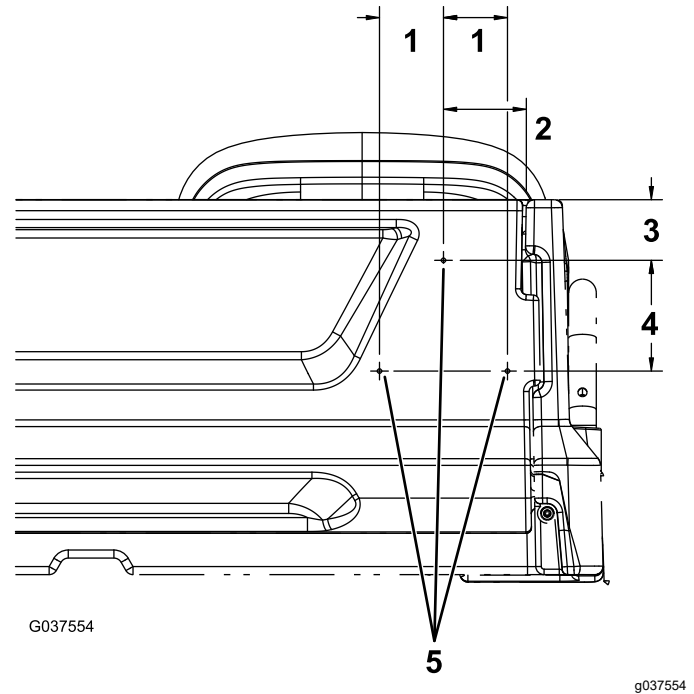

Figure 13
1. On the right side of the tailgate, measure 95 mm (3-3/4 inches) from the right edge of the tailgate and 70 mm (2-3/4 inches) from the top of the tailgate, and mark this location (Figure 13).
2. Measure 128 mm (5 inches) down from the hole marked in step 1 and 74 mm (2-7/8 inches) to the right and left and mark the 2 locations (Figure 13).
3. Drill a 5 mm (13/64 inch) hole at each of the 3 marked locations (Figure 13).